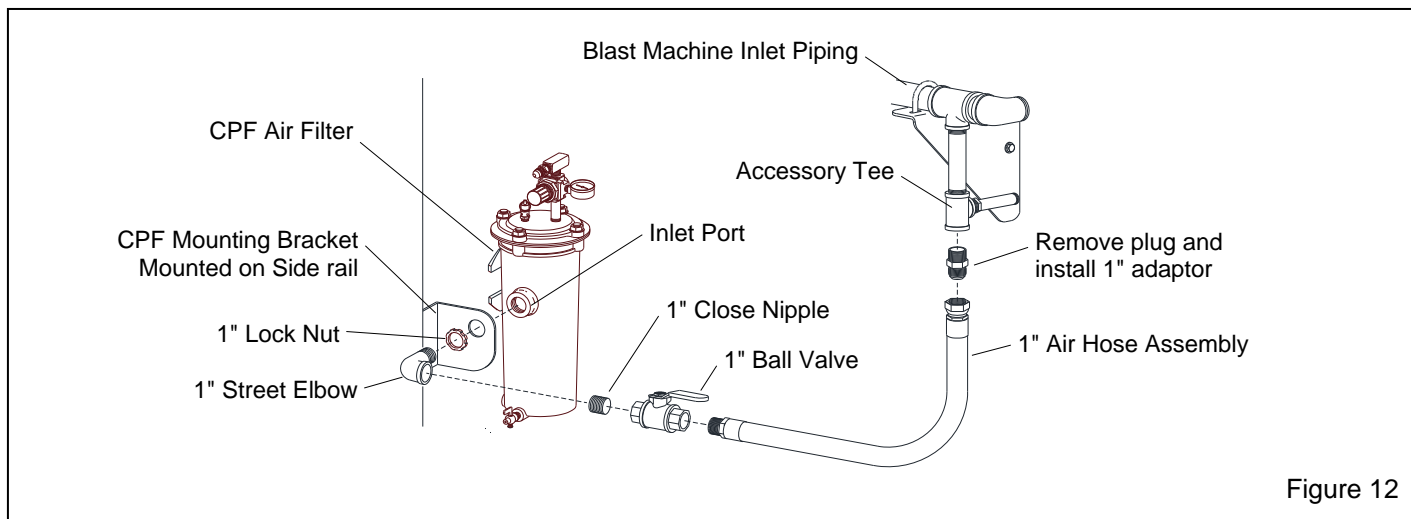

Figure 12
2.5 Breathing Air Connections, Optional CPF Filter, Refer to Figure 12.
2.5.6 Install the close nipple, ball valve and male end of the hose assembly into the elbow, as shown in Figure 12.